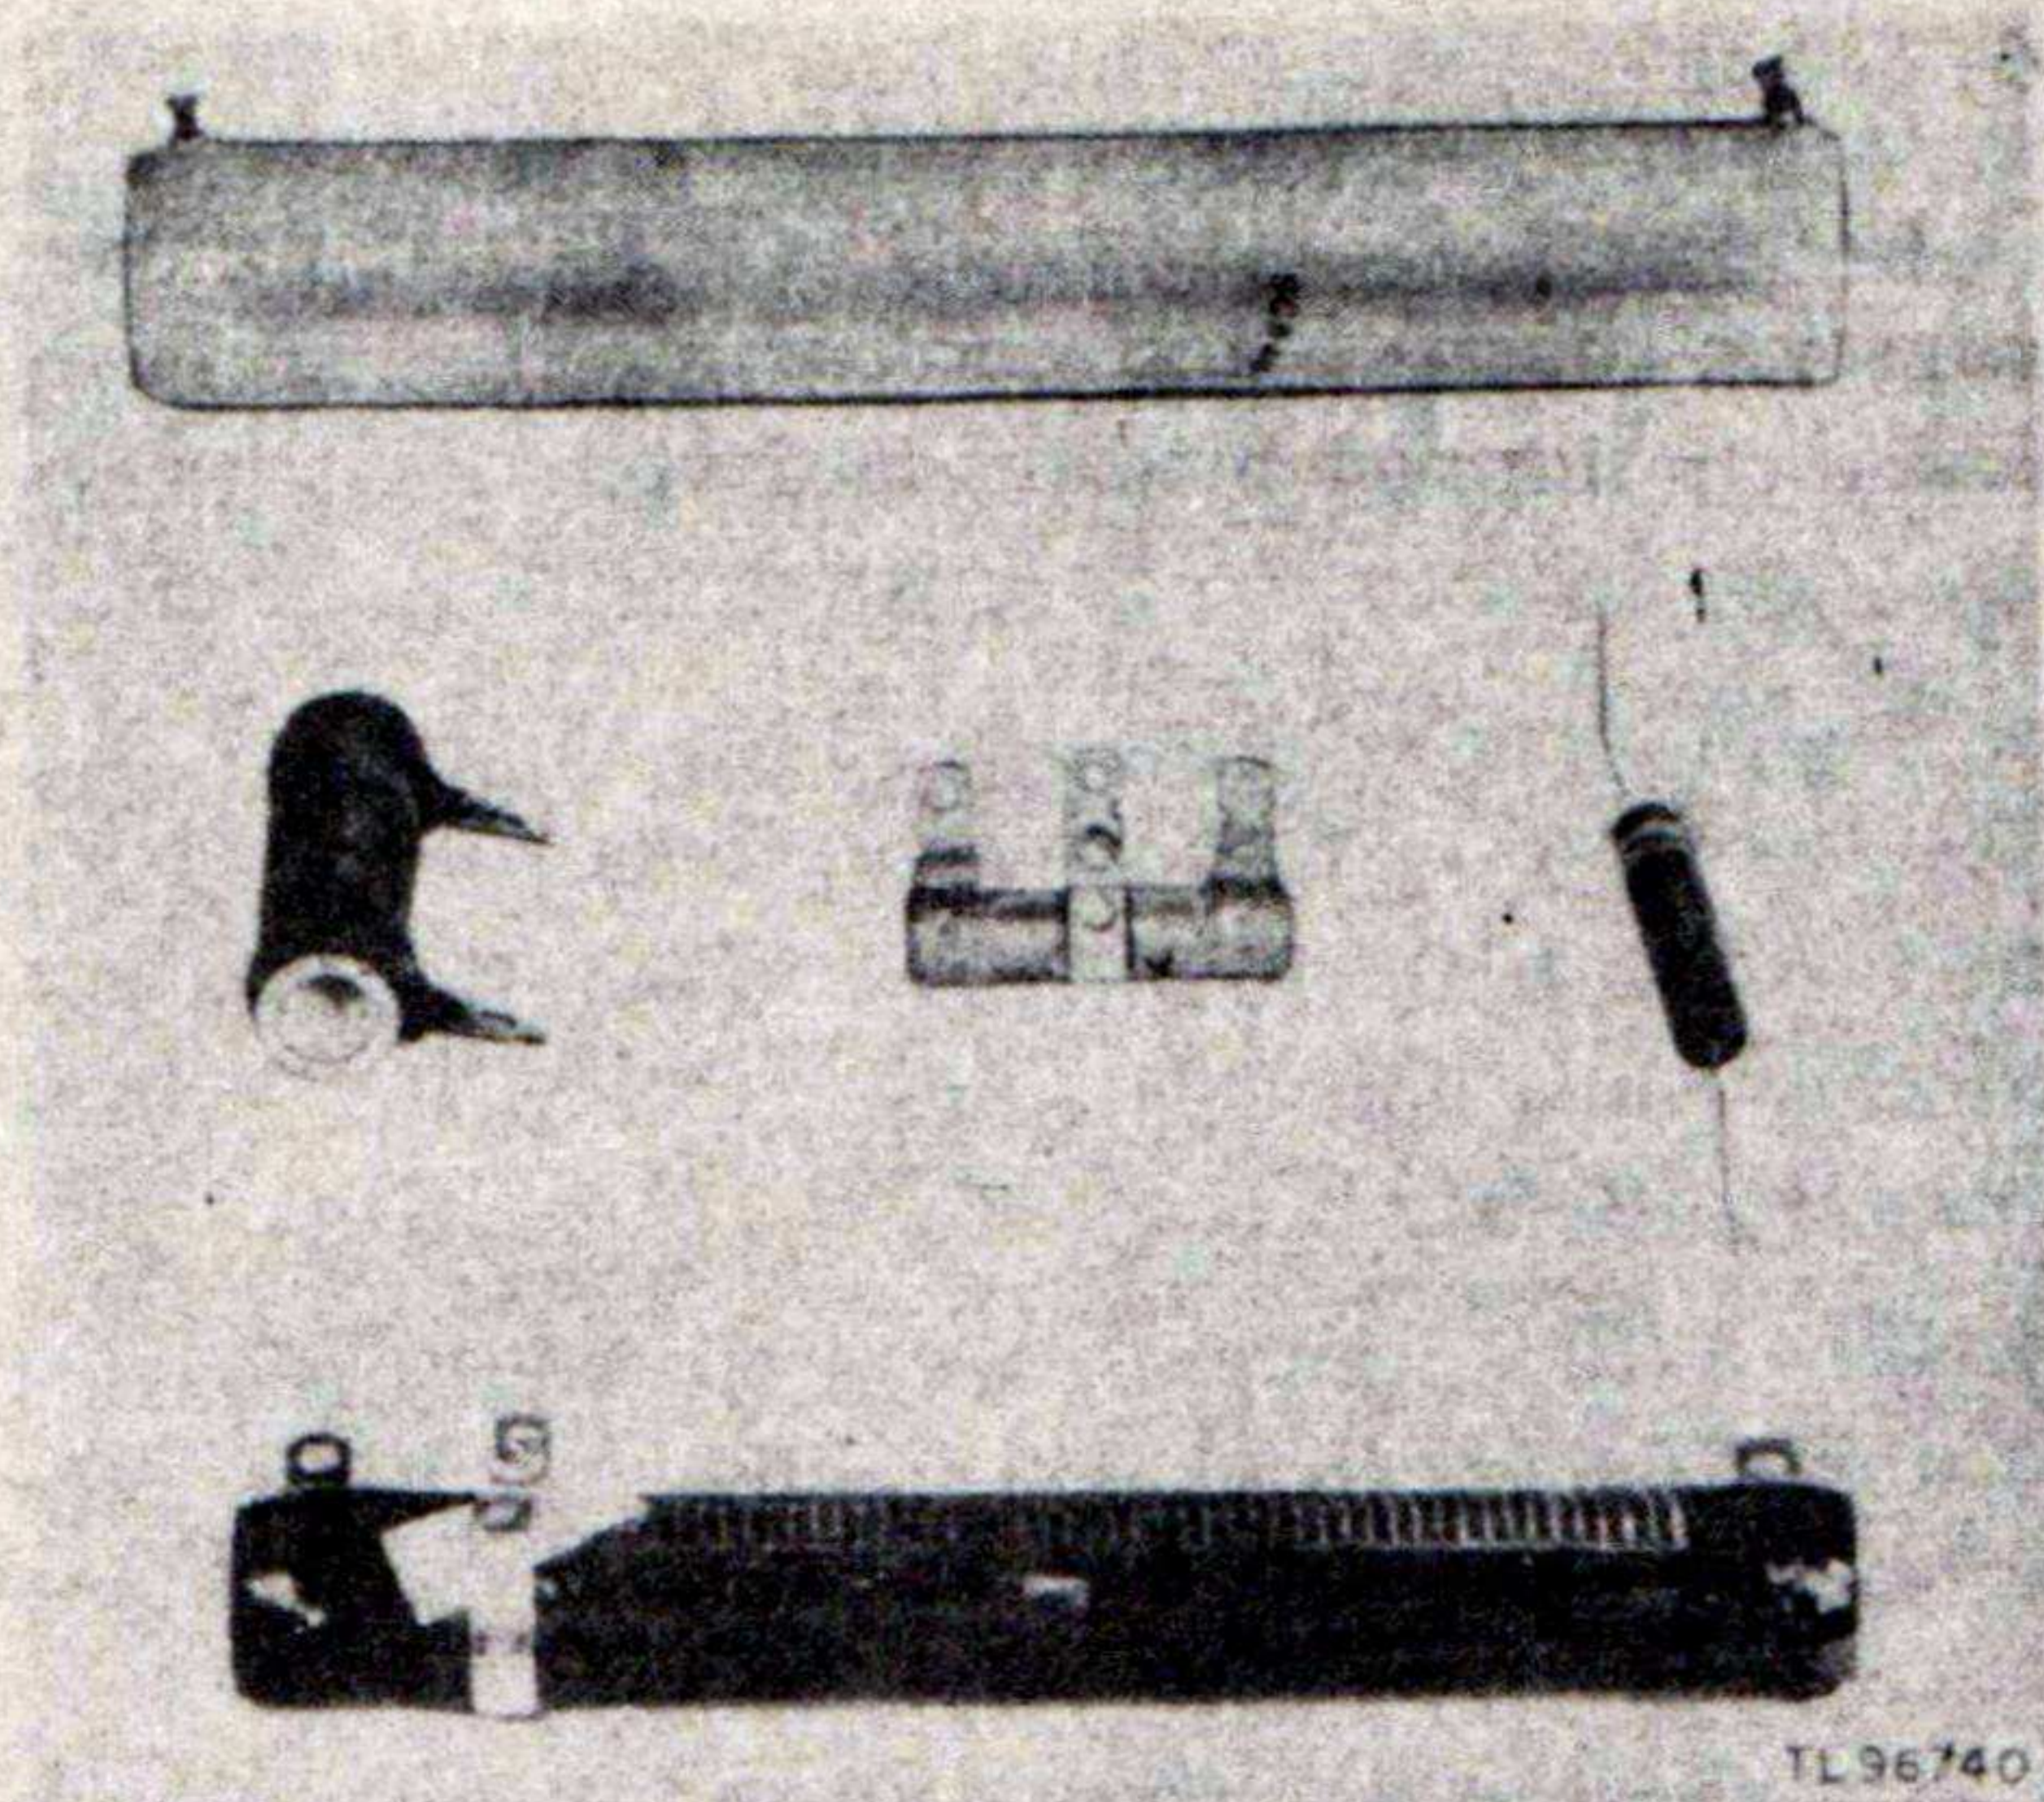

Figure 20. Typical resistors.
a. Wire-wound, Ceramic-coated, and Ferrule-type Resistors (fig. 20). Preventive maintenance of the wire-wound, ceramic-coated, and ferrule-type resistors is performed as follows:
(1) *Inspect (I).* Inspect the coating of the resistor for dirt, cracks, and chipping. Check for indications of overheating such as blistering and discoloration. Inspect for loose, dirty, or corroded mountings and connections.
(2) *Tighten (T).* Tighten loose mountings and connections.
(3) *Clean (C).* Clean the coating with a clean, dry cloth or cloth moistened with dry-cleaning solvent (SD) if dirt is hard to remove. Clean mountings and connections. Remove corrosion with #0000 sandpaper and then tighten fastenings.